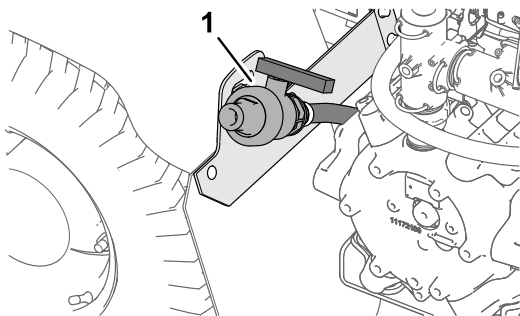

Figure 37
2. Locate the tank-drain valve at the left, rear fender of the machine (Figure 37).